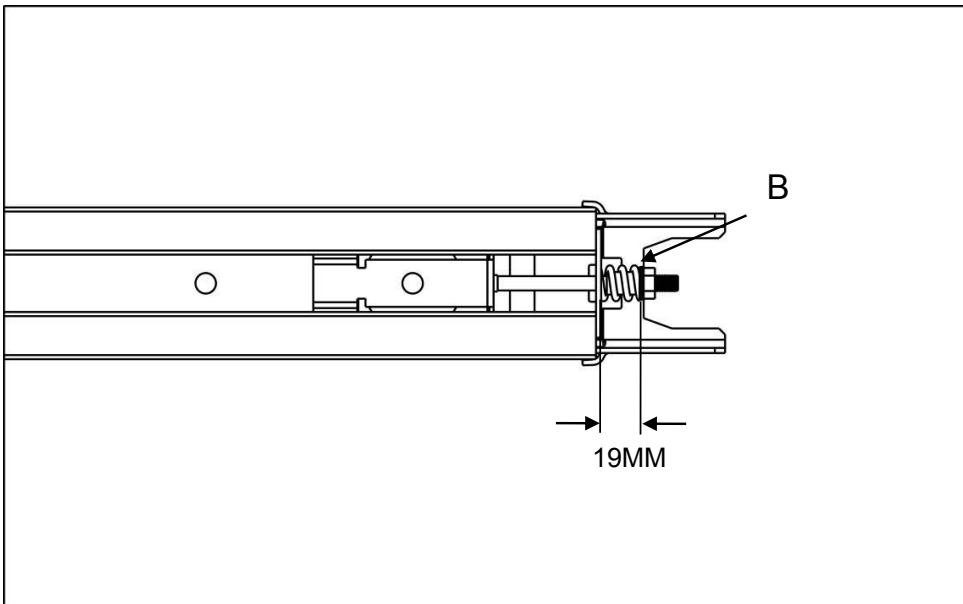

Fig. 9
6. Tight the nut to the right position as shown in Fig.9, cut the plastic cable tie on sprocket. Rail is now assembled.